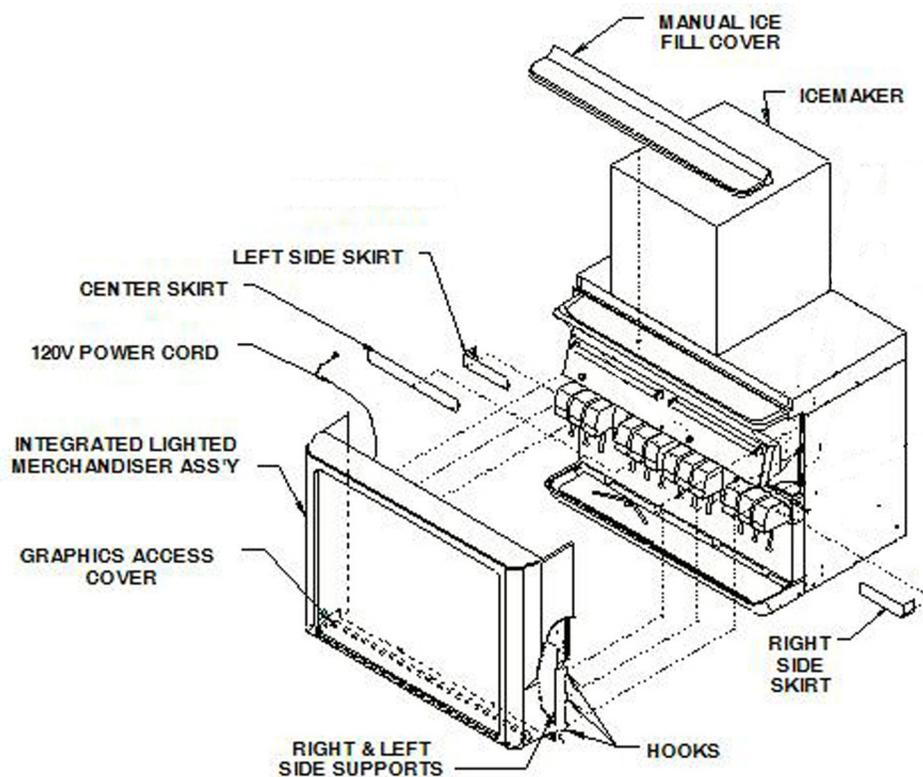

Figure 1.
1. Remove integrated merchandiser assembly from the dispenser cabinet and discard. Keep the florescent bulbs for reuse. (See Figure 1.)